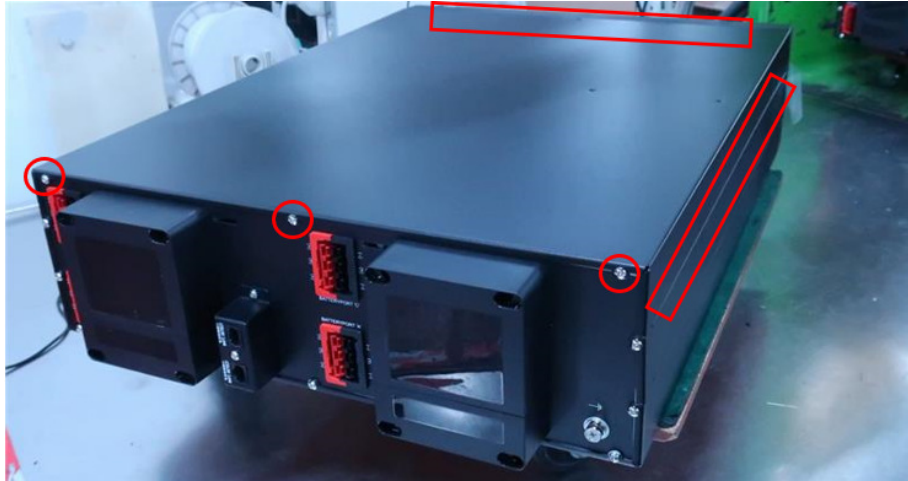

Fig 2-1
2.1). Take out the front panel, take out the top cover by removing screws on top & rear & side according to Fig 2-1: